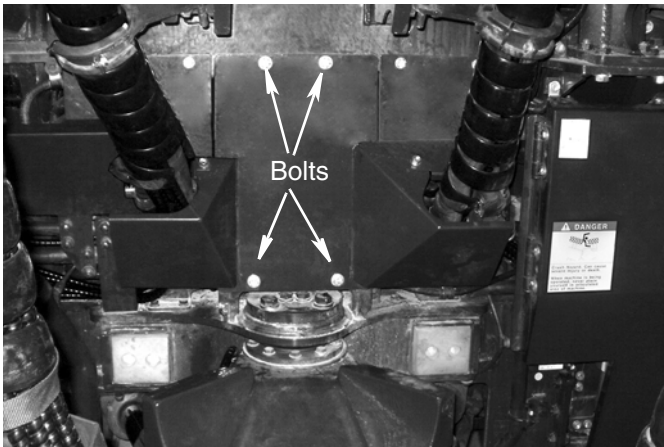

FIG. 18: HM300-5
1. Remove the bolts securing the cab access panel to the equipment as shown in FIG. 18. Keep the bolts to reinstall panel to the equipment.